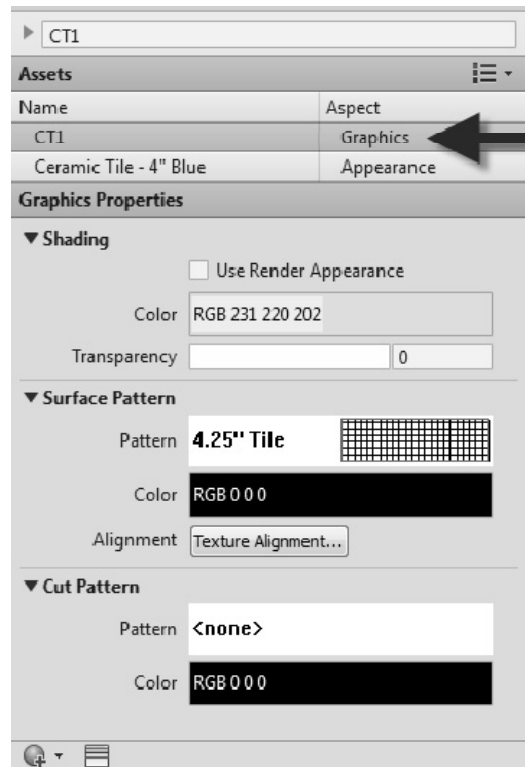

FIGURE 4-4.2 Material Editor; Graphics panel
17. Set the *Cut Pattern* for the tile to **None** (Figure 4-4.2); click the preview and then click the *No Pattern* button.